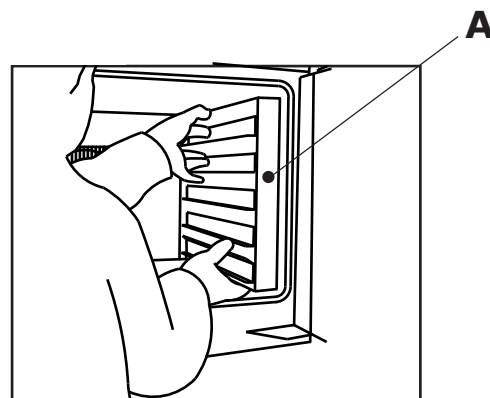

Fig. 17
- if necessary, remove the pan supports in order to clean them separately without hitting the bulbs on the cooking chamber left side (**A-Fig. 17**);